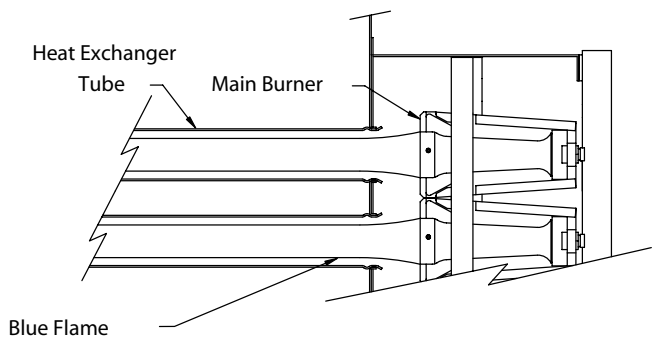

Figure 5
7. Allow the heater to operate for at least 5 minutes, then observe main burner flames. A hard blue flame extending 18 to 24 inches (457 to 610 mm) into the tube is normal (see Figure 5). There is no air adjustment on inshot burners.